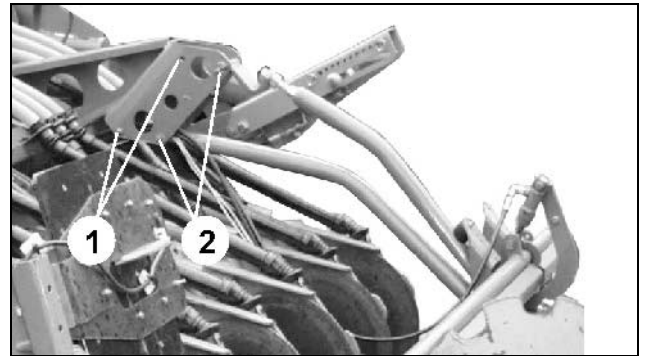

Fig. 25
- Make use of the fixing points (Fig. 25/1) when using WS or ROTEC-coulters.
- Make use of the fixing points (Fig. 25/2) when using ROTEC+-coulters..